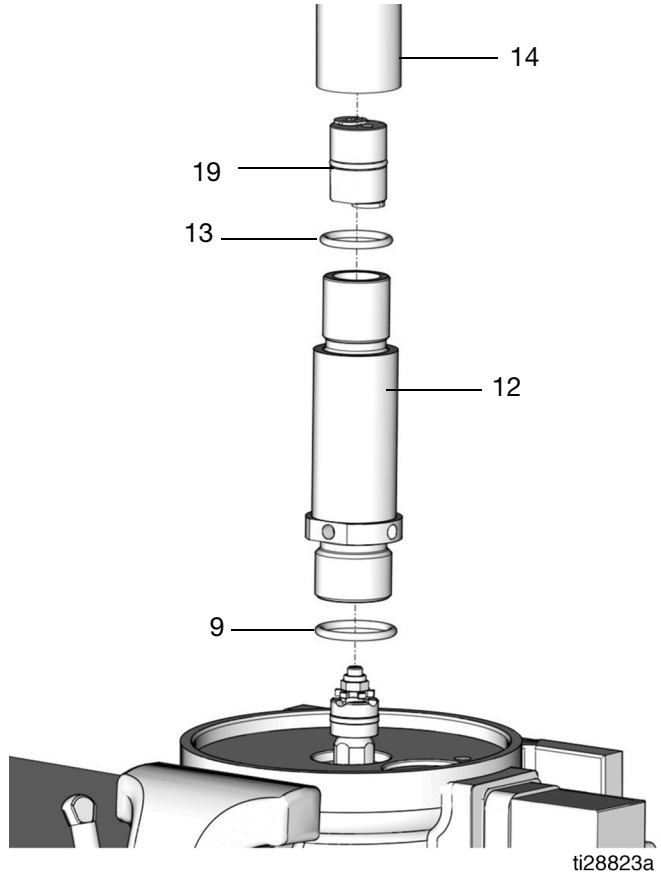

FIG. 17
14. Remove the o-ring (13) from the outlet tube (14). Remove the o-ring (9) from the pump cylinder (12). Dispose of the o-rings according to all regulations for proper disposal (FIG. 17).